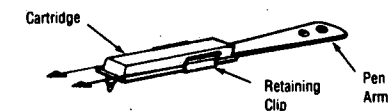

Figure 6-2. REMOVING INK CARTRIDGE.
Replacing Ink Cartridge (Figs. 6-2, 6-3)
4. Pull steadily, in a straight line, taking care not to distort pen arm (Fig. 6-2).